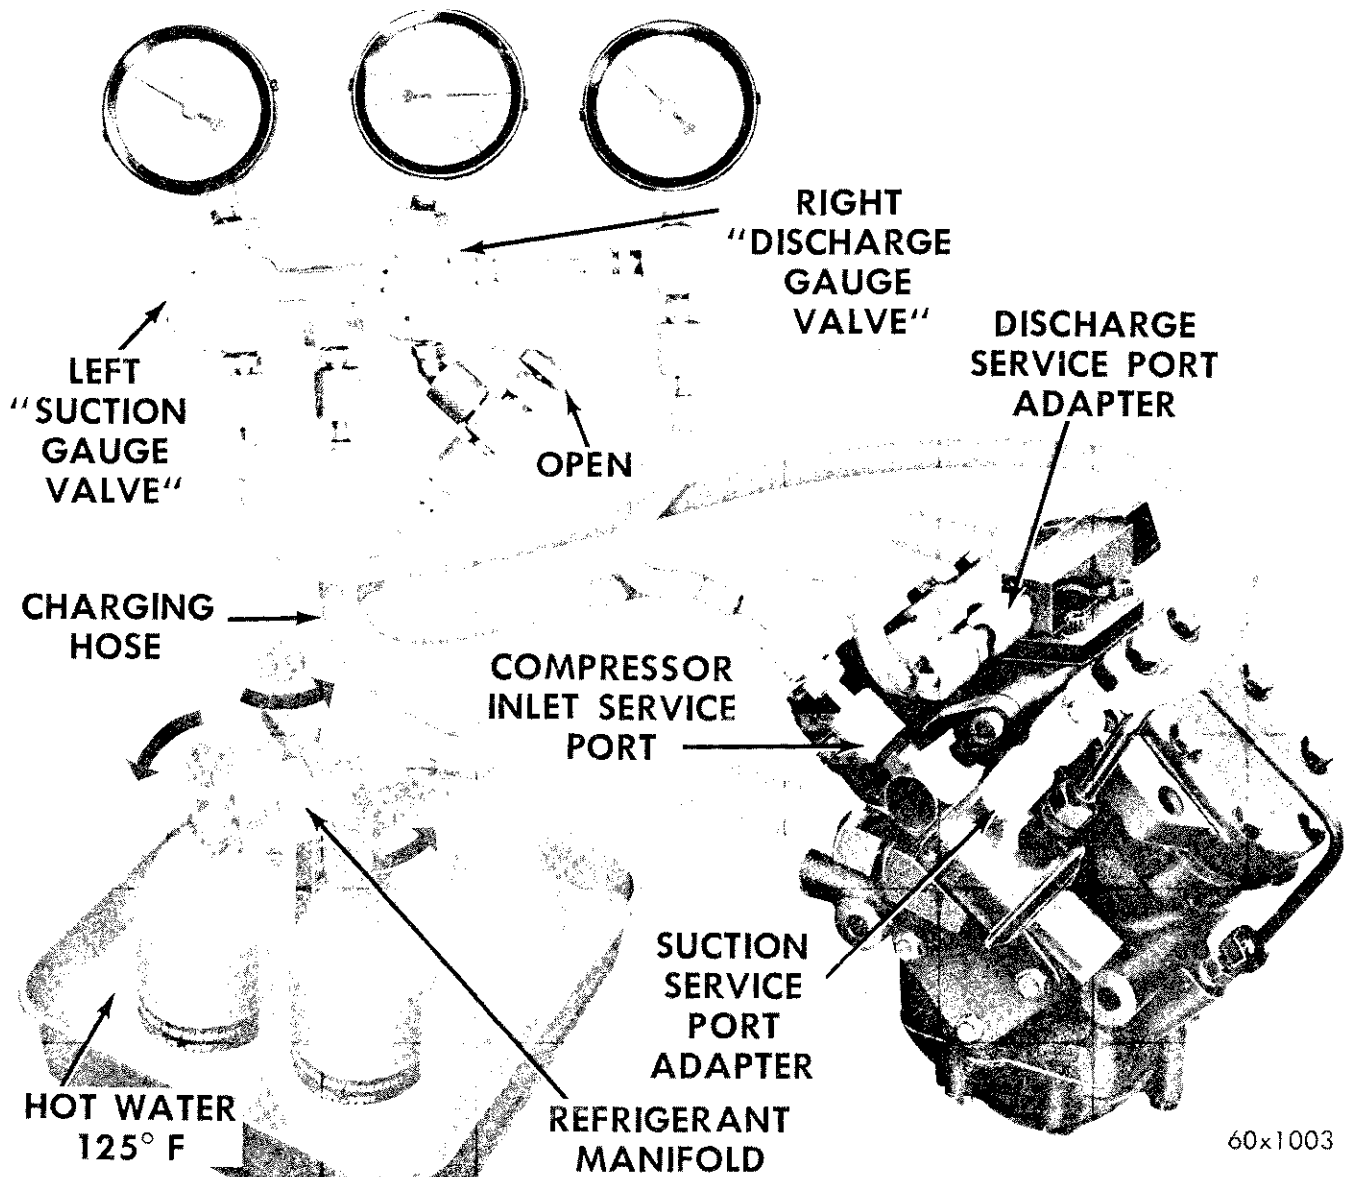

Fig. 69—Complete System Charging
(2) Open both gauge set manifold valves and the needle valve.
(3) Start the vacuum pump and operate until the evaporator suction gauge registers at least 26 inches of vacuum. If the system is tight and the pump in good condition, the vacuum will go as low as 28 inches.
(4) Allow the vacuum pump to operate with suction gauge registering 26 to 28 inches of vacuum for a minimum of five minutes.
(5) Close both gauge set manifold valves, turn off the vacuum pump and remove the test hose from the vacuum pump. Leave the gauge set manifold connected to the compressor. Charge the system with the proper amount of Refrigerant 12.
**42. CHARGING THE SYSTEM (Fig. 69)**